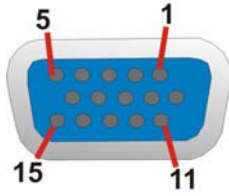

Figure 3-28: VGA Connector
- CN Pinouts:** See **Figure 3-28** and **Table 3-30**